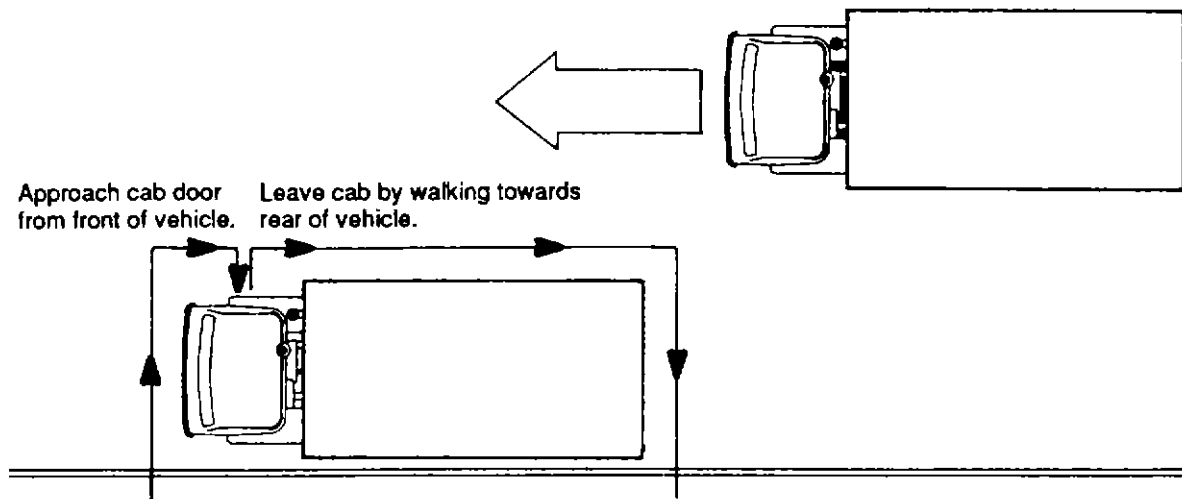

Figure 3.2
- **When your truck is parked on the roadside:** Always check your mirror before opening the cab door. Beware of passing traffic. If you must check the off side of the truck, always face the oncoming traffic so you don't get hit from behind. Be especially careful when returning to the cab. Approach your cab door from the front of the truck to minimise exposure time and enable you to face the traffic. Look around the corner of the cab before stepping out on the road because motorists will not see you coming. (See figure 3.2)